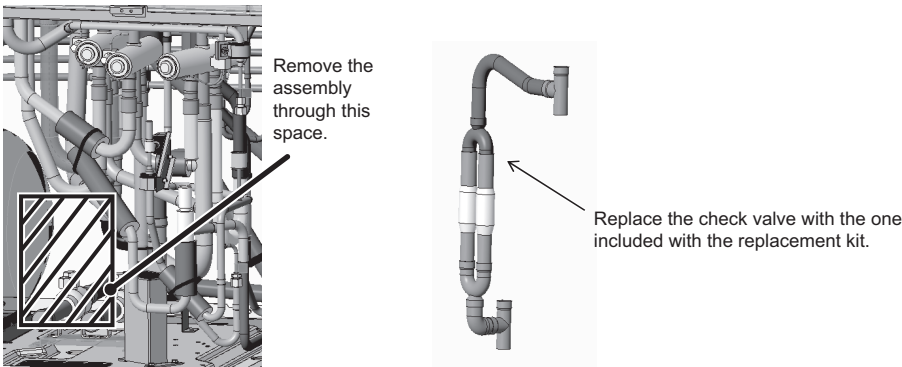

Figure 6
(5) Remove the check valve assembly (CV2a/b) from the area indicated in Figure 6.